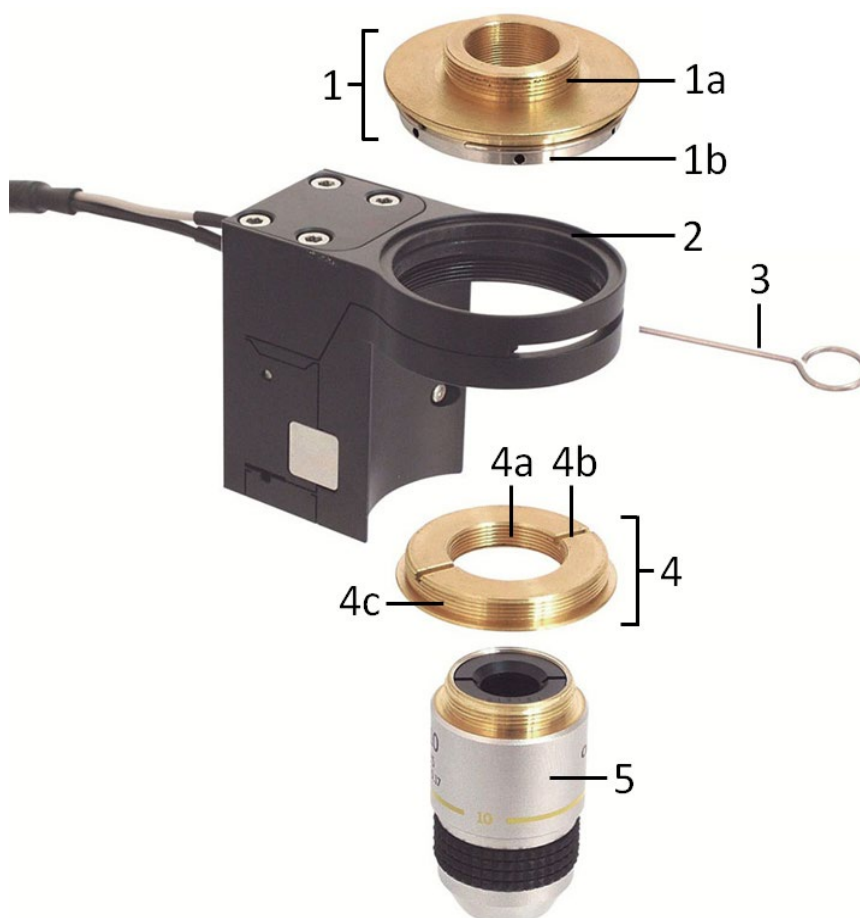

Fig. 3: P-721.xxQ thread adapter with PIFOC positioner and microscope objective
- Tightening tool supplied (see Fig. 3, p. 16)